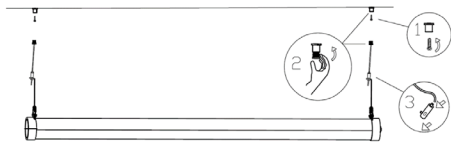

Fig. 2
- Fix the ceiling fixings to the ceiling using suitable screws and plugs (see Fig. 2)
- Thread the cables through the cable retainers, and screw the cable retainers back into the ceiling fixings (see Fig. 2)
- Push each cable hanging from the ceiling fixings into one of the adjustment connectors until it appears out of the hole in the side (see Fig. 2)